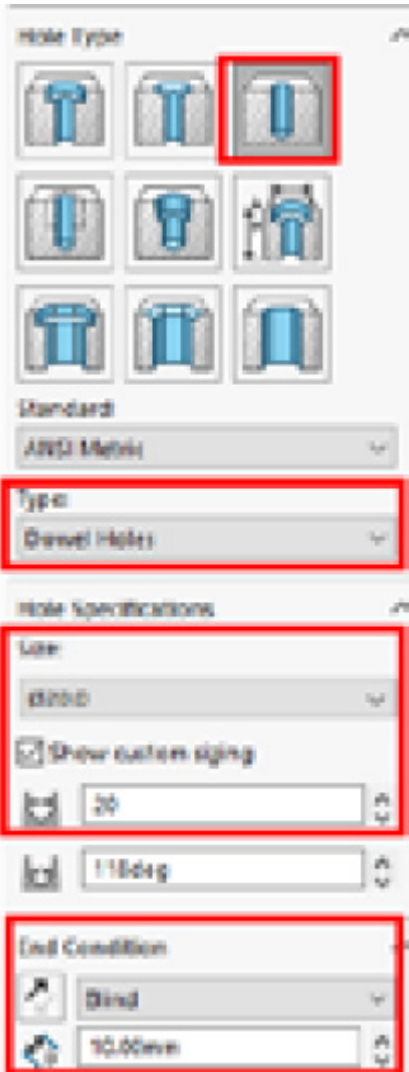

Figure 13.4 – Setting the hole type and size
2. First, set the hole type and size. There are many options to choose from, but for simple, circular holes, a good option is the **Hole** type (upper-right button – see *Figure 13.4*) and the **Dowel Hole** sub-type (chosen from the drop-down menu). The hole diameter can then be selected from a range of preset sizes, or an exact size can be inputted by putting a check mark in the **Show custom sizing** box and then adding the value.